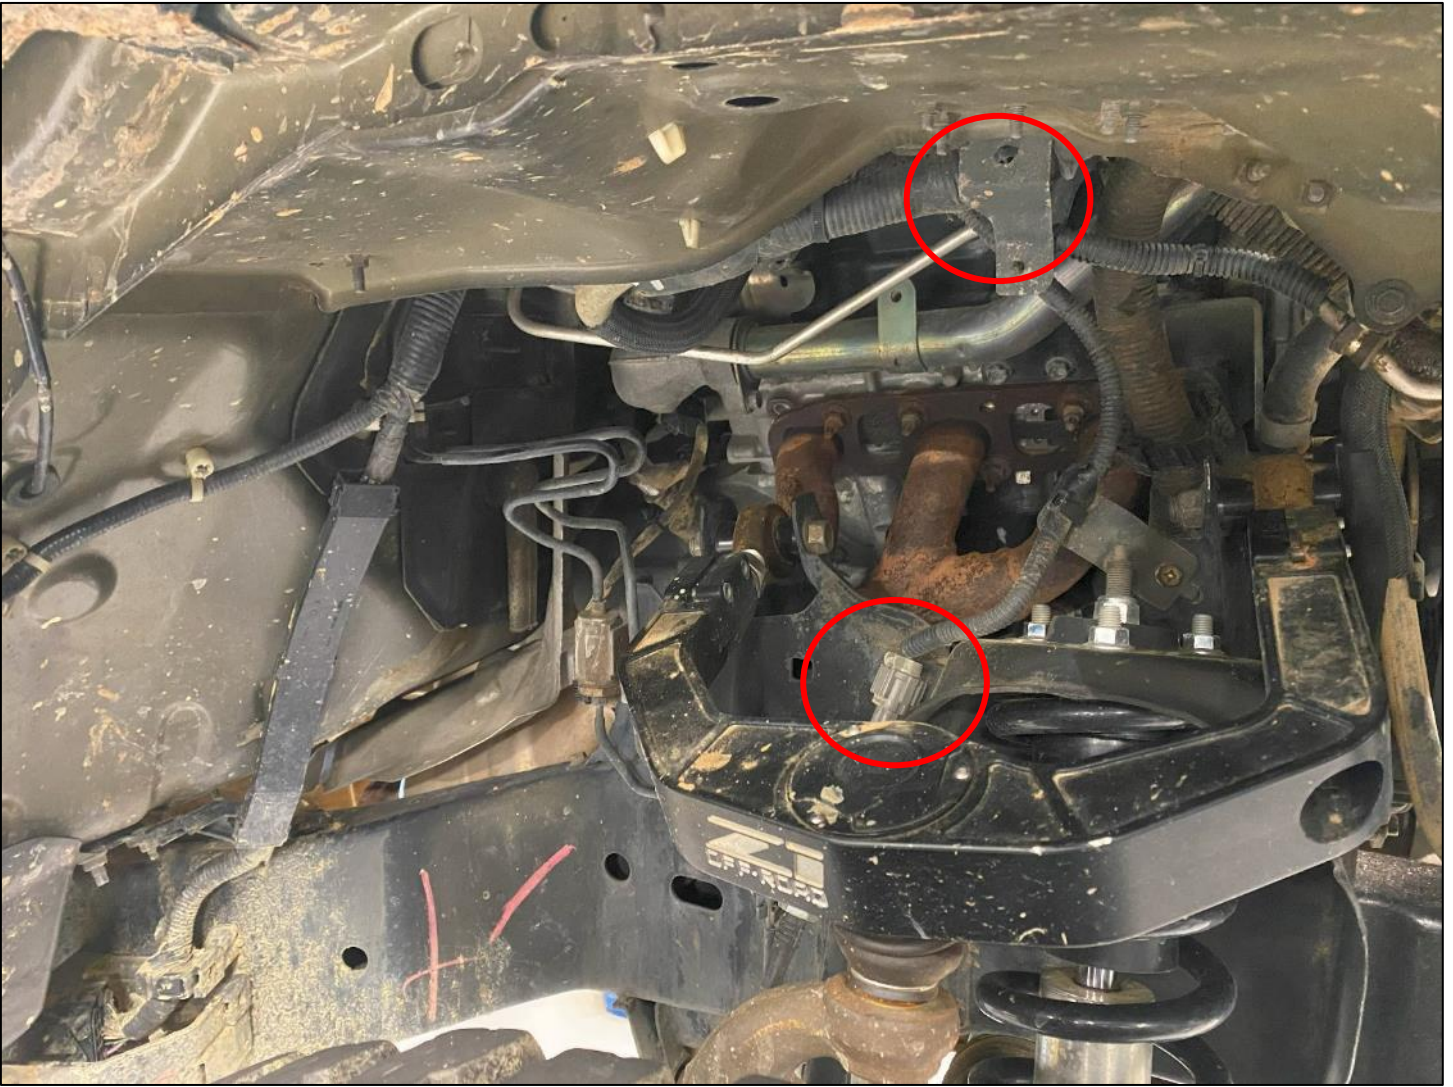

Figure 9
14. Disconnect the ABS Sensor and the Wiring Harness in the Passenger and Driver Side Wheel Well. *Figure 9.*